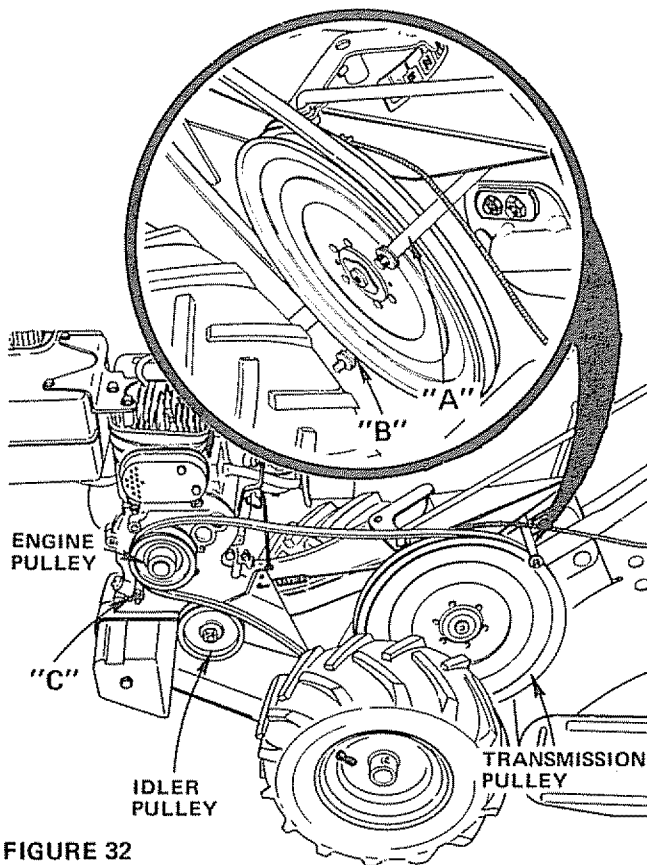

FIGURE 32
3. Loosen Belt Guides "A" and "B" (Fig. 32 - Inset). Remove Belt Guide "C" (Fig. 32).
4. Remove old Belt by slipping from Idler Pulley (Fig. 32) first.
5. Place new Belt in groove of Transmission Pulley (large pulley) and into groove of Engine Pulley (Fig. 32).
NOTE: BELT MUST BE IN GROOVE ON TOP OF IDLER PULLEY (FIG. 32) NOTE POSITION OF BELT TO BELT GUIDES.
6. Replace Belt Guide "C" (Fig. 32) and tighten Belt Guides "A" and "B" (Fig. 32 - Inset).